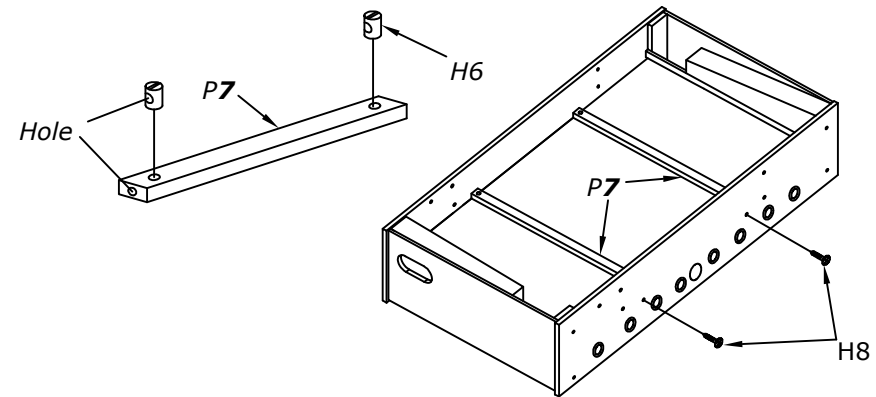

FIGURE 3
3. Insert the nut **H6** into the hole of the support braces **P7** as shown in **figure 3**. The hole of the nut align the hole of the braces. Place the playfield supports **P7** on the bottom of the playfield and attach it with screws **H8** as shown in **figure 3**.